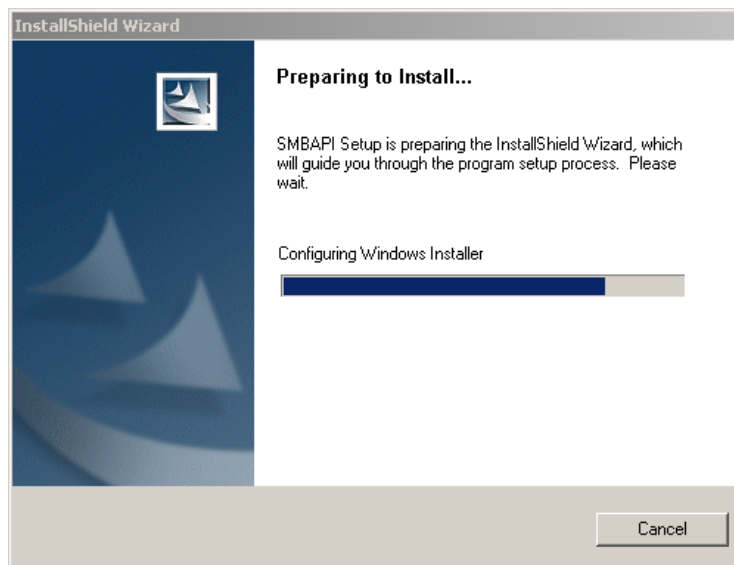

Figure 8-37: The InstallShield Wizard Starts
Step 4: The **InstallShield Wizard** starts (**Figure 8-37**).